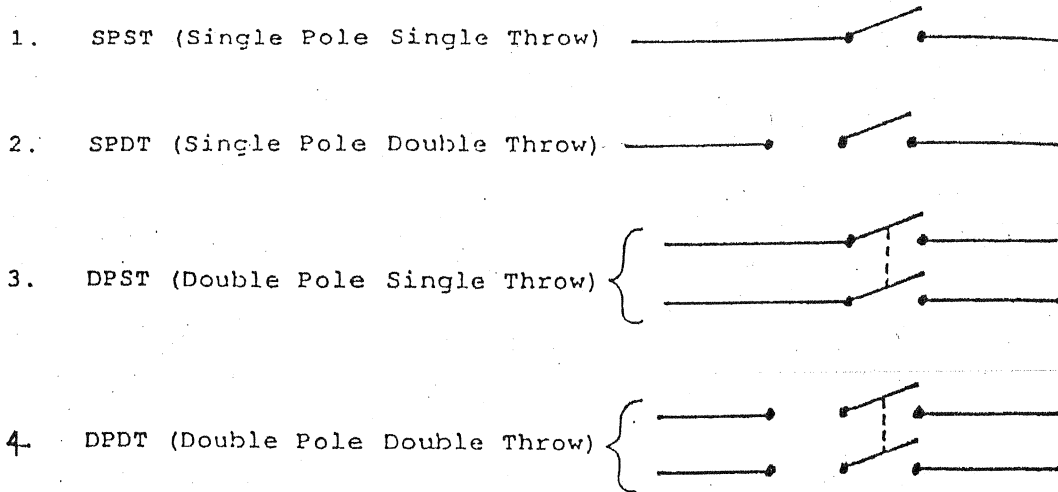

FIGURE 8-2
1. Standard DPDT toggle switches work the following way :- toggle UP will close the upper terminals while toggle DOWN will close the lower terminals (see Figure 8-2). Test the continuity of your switches with a meter to ensure they make contact as shown. IF THEY ARE DIFFERENT, SHOW THE TECHNICIAN who will give you a special wiring diagram.